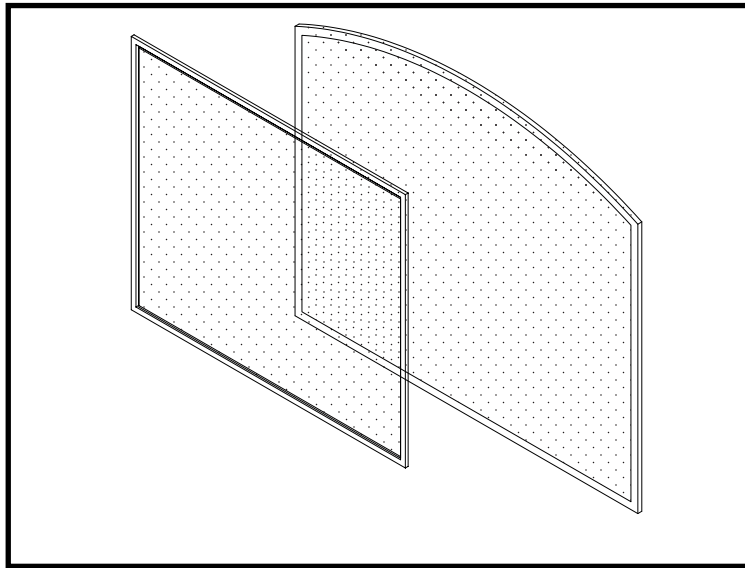

Figure 73: TC36 & TC36 Arch safety barrier screen.
- Attach the magnetic safety barrier screen (Figure 73) to the outer-most door frame